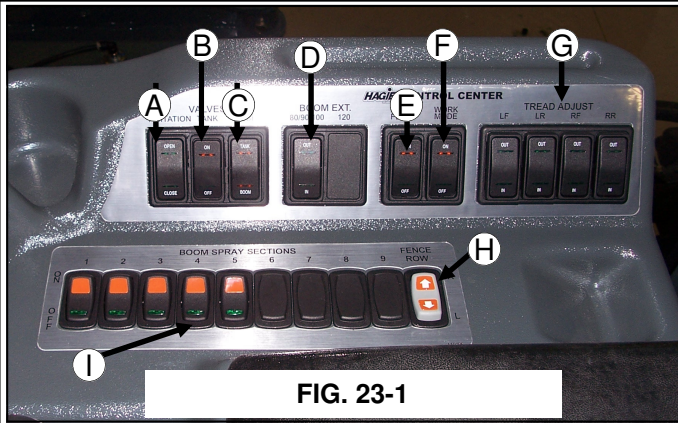

FIG. 23-1
**AGITATION SWITCH-** The agitation switch (fig. 23-1, item A) controls the rate of flow through the sparge system. For more information on the agitation system, refer to OPERATING SYSTEMS section D on the Spray Systems.
**TANK SWITCH-** The tank switch (fig. 23-1, item B) controls the solution tank valve. This switch must be on to spray. For more information on the
**RINSE SWITCH-** The rinse switch (fig. 23-1, item C) is used when you wish to rinse the solution tank or the booms. For more information on how to use the rinse system, refer to OPERATING SYSTEMS section D on the rinse system.
**BOOM EXTENSION SWITCH-** Boom extension (fig. 23-1, item D) switches are used when folding and unfolding the booms. Refer to OPERATING SYSTEMS section C on spray booms.
**WORK MODE SWITCH-** The work mode switch (fig. 23-1, item F) is a safety switch. There are systems connected to this switch that will not function if the switch is not ON and this switch can not be turned on if certain conditions exist. You can not turn the switch on if the machine is not in neutral. The switch controls the functions of the spray system and the booms. This was set up to protect you and others from accidentally engaging the spray system while transporting. Be sure that this switch is on before you intend to engage the spray system.
**TREAD ADJUST SWITCH-** The tread adjust switches (fig. 23-1, item G) are used to hydraulically adjust the tread width. These switches will not do anything if you do not have hydraulic tread adjust. For more information on hydraulic tread adjustment, refer to OPERATING SYSTEMS section C on the hydraulic system.
**FENCE ROW SWITCH-** The fence row switch (fig. 23-1, item H) is for the selection of right or left fence row spray nozzle. More information on the fence row can be found in OPERATING SYSTEMS section D on the spray system.
**BOOM SOLUTION VALVE SWITCH-** The boom solution valve switches (fig. 23-1, item I) each control a valve located on the transom and the booms. The valves control the flow of solution through the boom. The boom is broken down into 5 sections (3 sections on a 60' boom), the far left tip being the beginning of section one. See section D under OPERATING SYSTEMS on the spray system for more information.